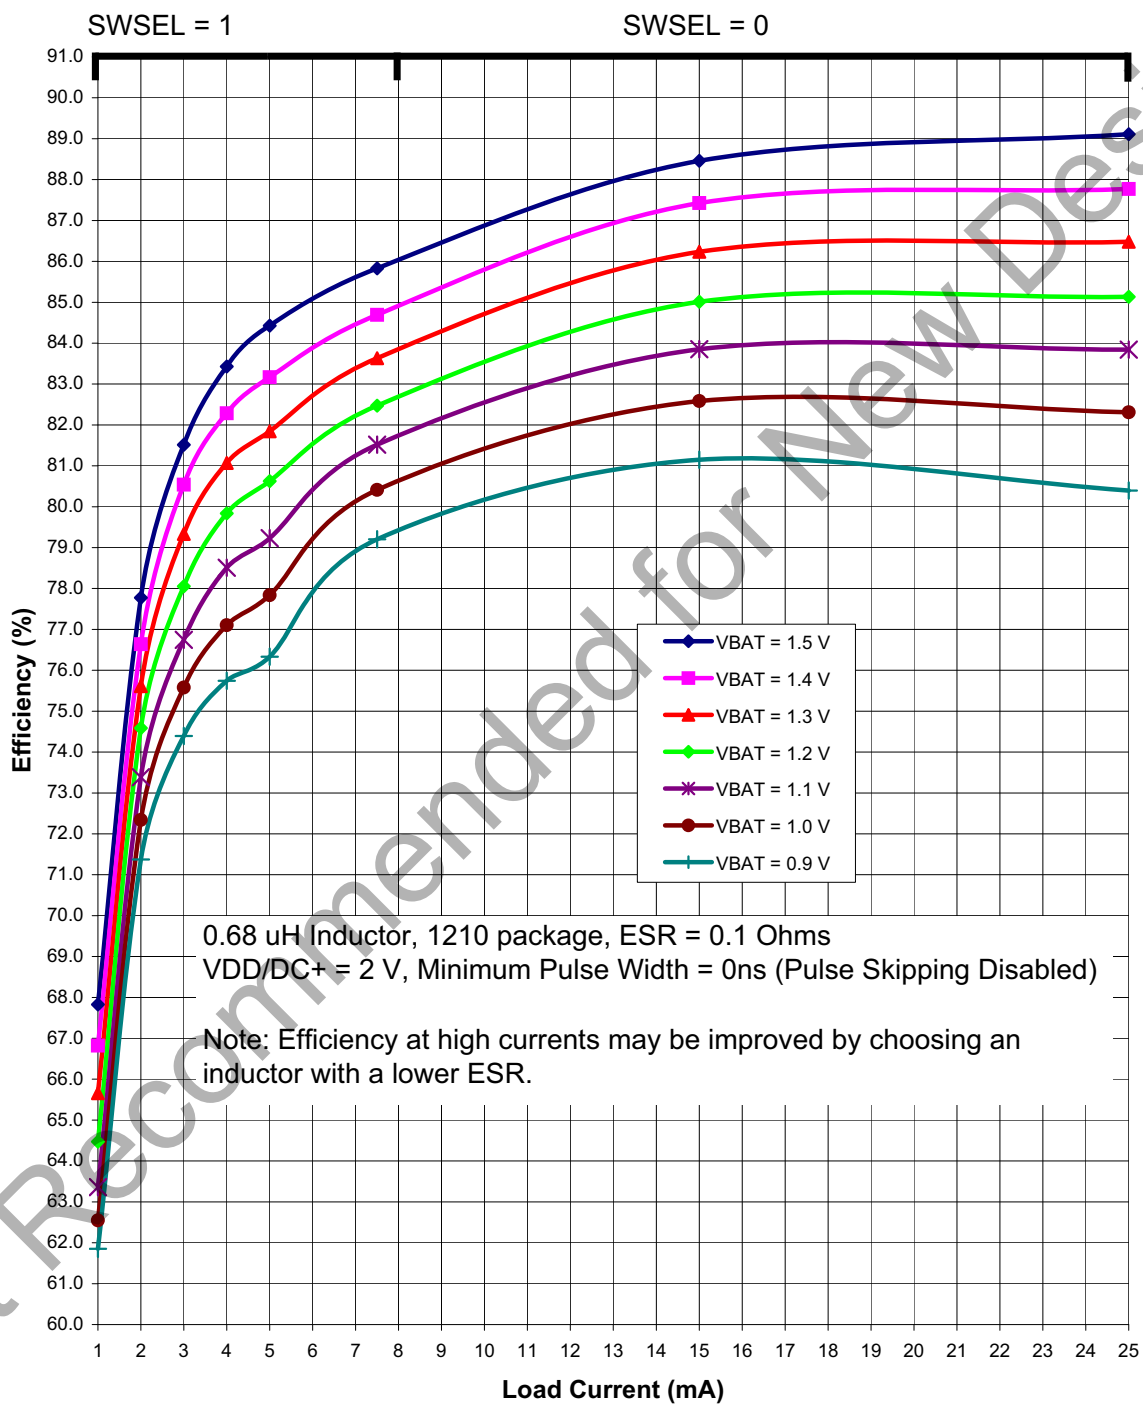
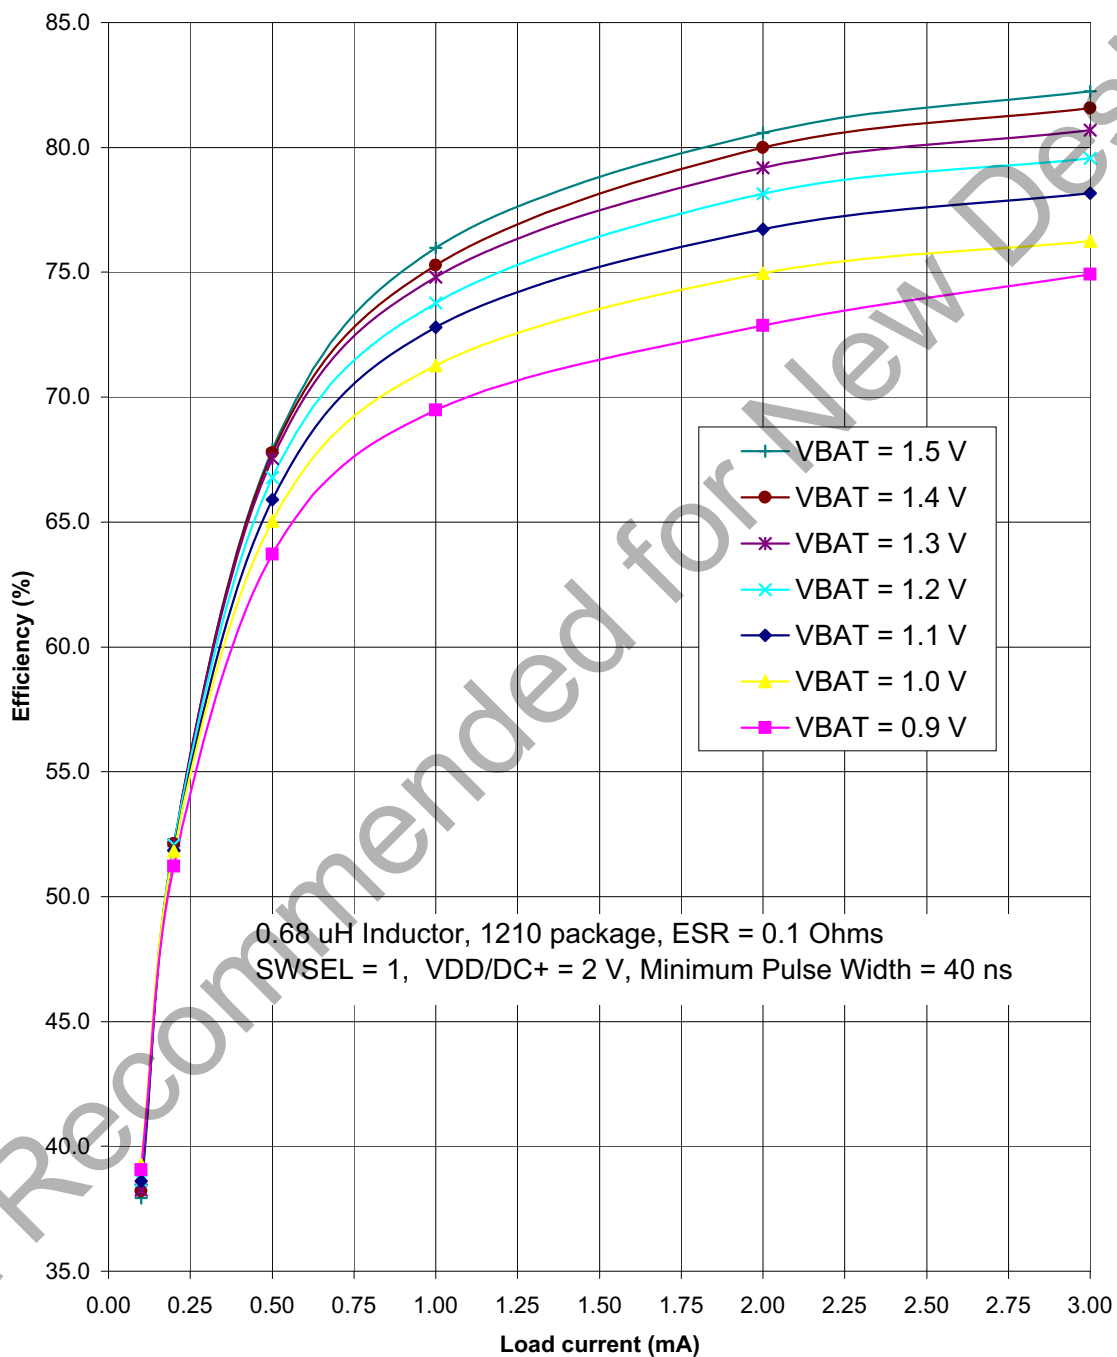

Figure 4.3. Typical DC-DC Converter Efficiency (High Current, VDD/DC+ = 2 V)
Figure 4.5. Typical DC-DC Converter Efficiency (Low Current, VDD/DC+ = 2 V)
<ol style="list-style-type: none"> <li>Based on device characterization data; Not production tested.</li> <li>SYSCLK must be at least 32 kHz to enable debugging.</li> <li>Digital Supply Current depends upon the particular code being executed. The values in this table are obtained with the CPU executing an "sjmp \$" loop, which is the compiled form of a while(1) loop in C. One iteration requires 3 CPU clock cycles, and the flash memory is read on each cycle. The supply current will vary slightly based on the physical location of the sjmp instruction and the number of flash address lines that toggle as a result. In the worst case, current can increase by up to 30% if the sjmp loop straddles a 128-byte flash address boundary (e.g., 0x007F to 0x0080). Real-world code with larger loops and longer linear sequences will have few transitions across the 128-byte address boundaries.</li> <li>Includes oscillator and regulator supply current.</li> <li>IDD can be estimated for frequencies <math>\leq 10</math> MHz by simply multiplying the frequency of interest by the frequency sensitivity number for that range, then adding an offset of 90 <math>\mu</math>A. When using these numbers to estimate <math>I_{DD}</math> for <math>&gt;10</math> MHz, the estimate should be the current at 25 MHz minus the difference in current indicated by the frequency sensitivity number. For example: <math>V_{DD} = 3.0</math> V; <math>F = 20</math> MHz, <math>I_{DD} = 4.1</math> mA – <math>(25 \text{ MHz} - 20 \text{ MHz}) \times 0.120 \text{ mA/MHz} = 3.5</math> mA.</li> <li>The Supply Voltage is the voltage at the VDD_MCU pin, typically 1.8 to 3.6 V (default = 1.9 V). Idle IDD can be estimated by taking the current at 25 MHz minus the difference in current indicated by the frequency sensitivity number. For example: <math>V_{DD} = 3.0</math> V; <math>F = 5</math> MHz, Idle <math>I_{DD} = 2.5</math> mA – <math>(25 \text{ MHz} - 5 \text{ MHz}) \times 0.095 \text{ mA/MHz} = 0.6</math> mA.</li> <li>The supply current specifications in Table 4.2 are for two cell mode. The VBAT current in one-cell mode can be estimated using the following equation:  <math display="block">\text{VBAT Current (one-cell mode)} = \frac{\text{Supply Voltage} \times \text{Supply Current (two-cell mode)}}{\text{DC-DC Converter Efficiency} \times \text{VBAT Voltage}}</math> <p>The VBAT Voltage is the voltage at the VBAT pin, typically 0.9 to 1.8 V.            The Supply Current (two-cell mode) is the data sheet specification for supply current.            The Supply Voltage is the voltage at the VDD/DC+ pin, typically 1.8 to 3.3 V (default = 1.9 V).            The DC-DC Converter Efficiency can be estimated using Figure 4.3–Figure 4.5.</p> </li> <li>The EZRadioPRO peripheral is placed in Shutdown mode.</li> </ol>